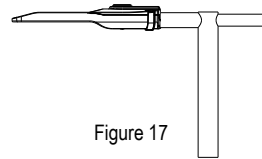

Figure 17
Step 6: Raise the support frame, close the cover of the driver box, and secure the cover buckles (Figure 17).